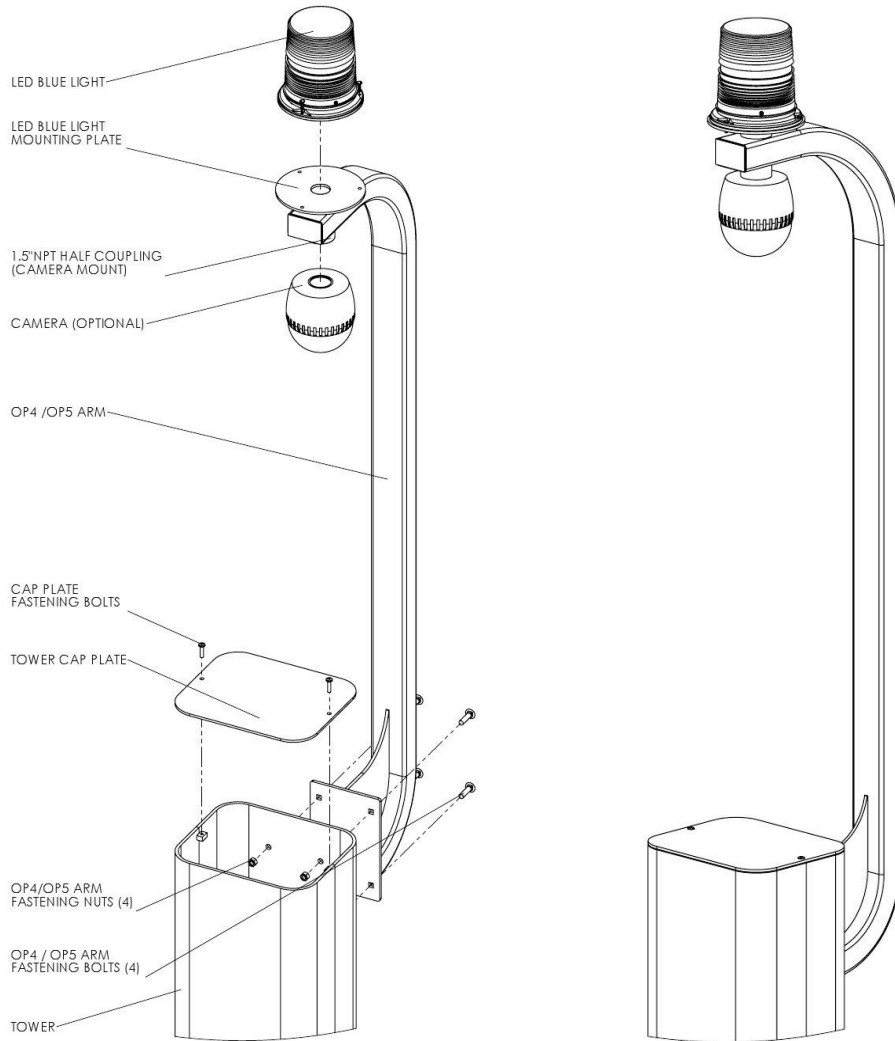

Figure 4: Installation (exploded and assembled views) of OP4 / OP5 Arm to Tower
1. Remove tower cap plate. – See **Figure 4** –
3. Attach LED Blue Light using the three (3) 10-24 tamperproof screws provided in the **OP 4 TOWER PTS** package. If installing a camera, attach the camera to the 1.5" NPT coupling of the arm. (Hardware is not provided for the camera). Pull cables into tower.